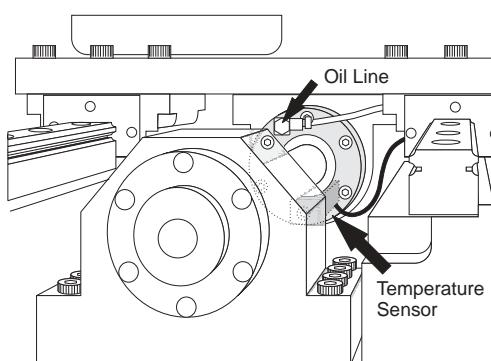

Figure 3.12-3
6. Jog the X-axis to the home position. Remove the temperature sensor and oil line. Remove all but one of the SHCS that secure the ball nut to the nut mount. Loosen the remaining SHCS to hand tight. (See figure 3.12-3.)